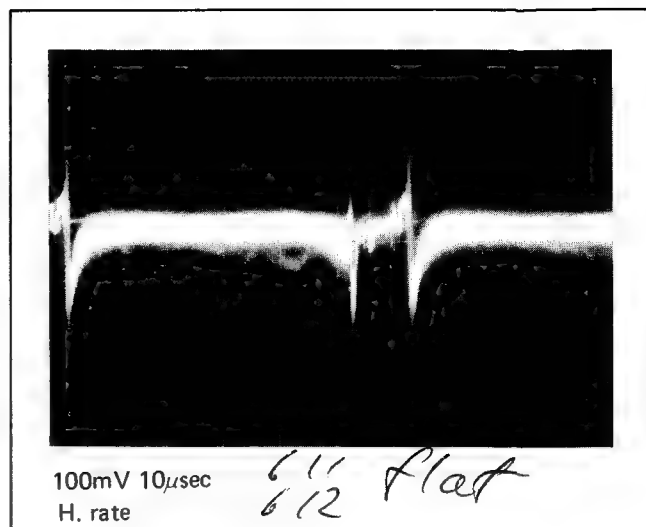

Fig. 30 Waveform of TP316
5. Then, alternately adjust horizontal sawtooth control, VR601 and horizontal parabola control, VR602 for the signal waveform to be flattest during the horizontal period as shown in Fig. 30.